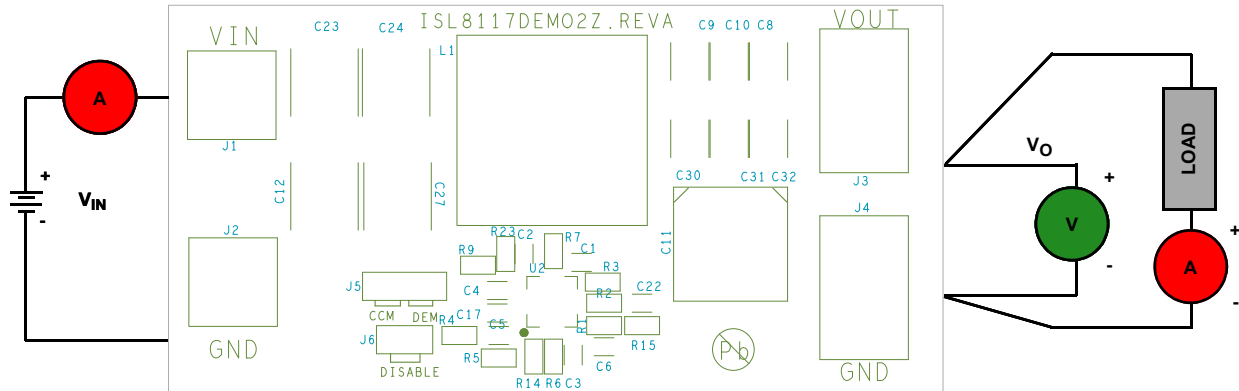

FIGURE 4. PROPER TEST SET-UP
1. Jumper J5 provides the option to select CCM or DEM. Please refer to Table 2 for the desired operating option. Ensure that the circuit is correctly connected to the supply and electronic loads prior to applying any power. Please refer to Figure 4 for proper set-up.
As shown in Figure 4 on page 3, 18V to 60V  $V_{IN}$  is supplied to J1 (+) and J2 (-). The regulated 12V output on J3 (+) and J4 (-) can supply up to 20A to the load. Due to high thermal efficiency, the demonstration board can run at 20A continuously without air flow in room temperature ambient condition.